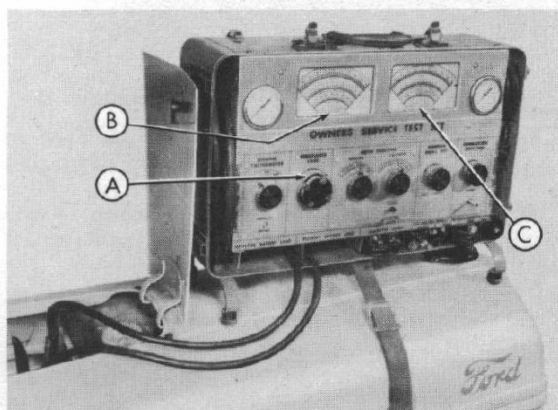

Fig. 1
This engine test set is mounted on the tractor hood and the battery leads of the test set are connected to the battery terminals as shown in Figure 1. The leads are connected to the battery to provide power to operate the tachometer and combustion analyzer units as well as to light the meter and gauge scales. In this connection it should be understood that tests other than those using the tachometer and the combustion analyzer units of the set can be made without using battery power if so desired, but the meter scales will not light.
Step 2—Turn the Resistance Load Knob (A-Figure 1) to the right until the pointer on the Battery Size scale (B-Figure 1) reaches the ampere hour size of the battery being tested.
Step 3—Check the reading on the Battery Condition scale (C-Figure 1). The battery condition will be shown by the area in which the indicator is positioned as described below. Turn the Resistance Load